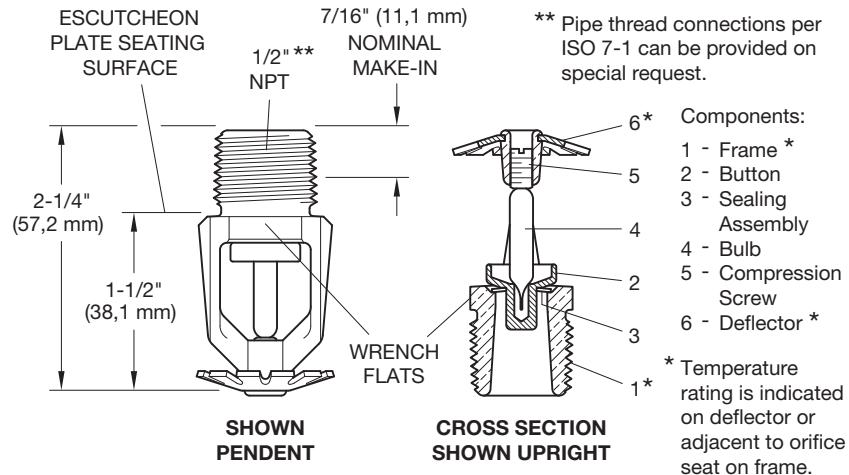

FIGURE 5
Step 2C. Tighten the sprinkler into the sprinkler fitting using only the W-Type 6 Sprinkler Wrench shown in Figure 16. With reference to Figures 5, 6, 7, and 8 the W-Type 6 Sprinkler Wrench is to be applied to the wrench flats.